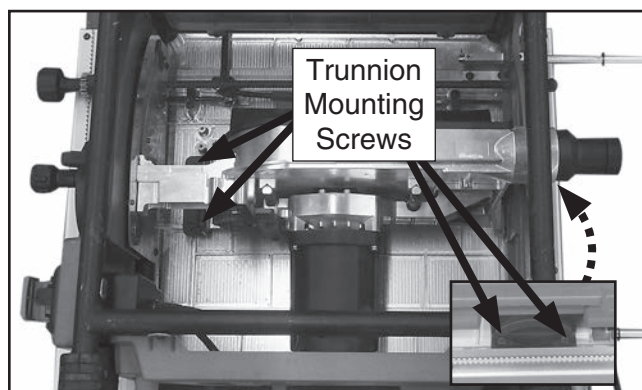

Figure 85. Trunnion mounting screws.
6. To adjust the table, slightly loosen the cap screws in the trunnion mounting locations (see **Figure 85**) and slightly tap the trunnions in the needed direction. Repeat **Steps 2–5** until the blade and miter slot are parallel.